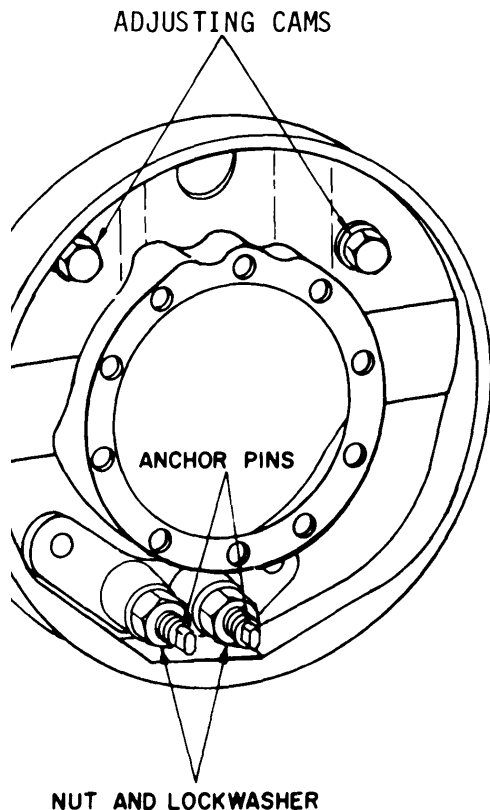

Figure 4-13. Brake shoe adjustment.
### 4-23. Brake Shoe Adjustment (fig 4-13)
Brake shoe adjustment to compensate for lining wear is made by turning the adjusting cams only (fig 4-13), and is termed "minor adjustment". Following overhaul or when new linings are installed, each brake shoe must be adjusted to center the brake shoe arc in relation to the drum. This involves turning both the anchor pins and the adjusting cams and is termed "major adjustment".
(2) Turn the forward shoe adjusting cam (fig 4-13) clockwise to bring brake lining in contact with drum until brake drags slightly when wheel or drum is
(6) Loosen the locknut on the forward shoe anchor pin (fig 4-13).
(7) Hold the locknut with a wrench and turn the anchor pin with a second wrench until 0.010-inch clearance is obtained. To reduce clearance, turn anchor pin clockwise. To increase clearance, turn anchor pin counterclockwise. Tighten the locknut.
(8) Rotate the drum until inspection hold is 1-1/2 inches from the top end of the forward brake shoe.
(9) Insert 0.020-inch feeler gage and turn the forward shoe adjusting cam (fig 4-13) until 0.020-inch clearance is obtained. To reduce clearance, turn cam counterclockwise. To increase clearance, turn cam clockwise. While holding anchor pins to prevent turning, tighten anchor pin locknut and check the top clearance again.
(10) Check the lower clearance again in (5) above.
(11) Repeat procedures (2) through (10) for rear brake shoe.
(12) Install the inspection hole cover on brake drum.
(13) Install the wheels (para 4-33).
(14) Lower the semitrailer and remove the jack.